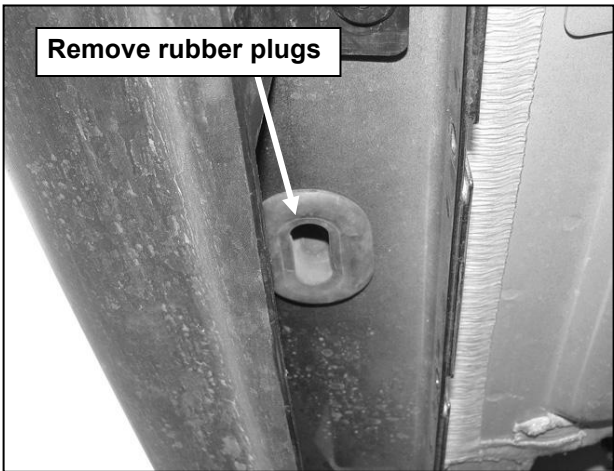
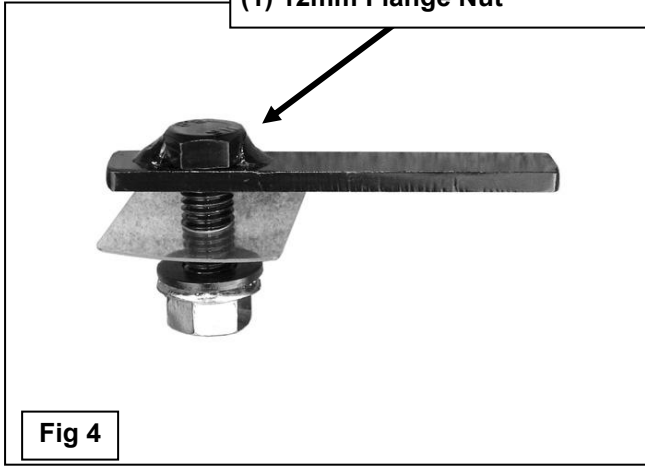
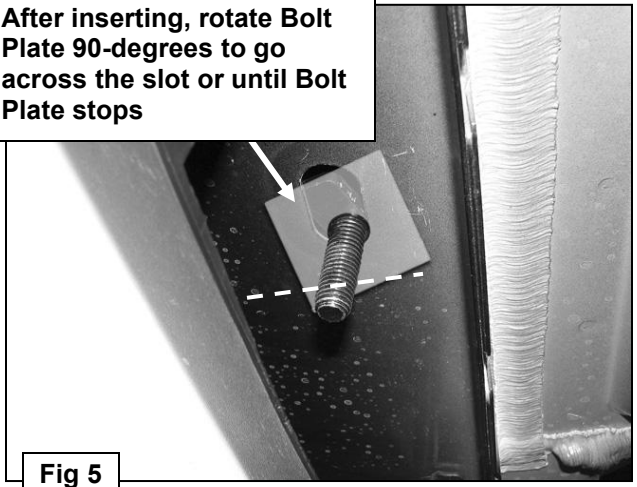

Fig 3
Fig 4
Fig 5
- Starting at the driver side, locate the (3) pairs of factory holes in the pinch weld, **(Figure 1 & 2)**. Move toward the front pair. Remove the rubber plug filling the oval hole in the bottom of the rocker panel in front of the two holes, **(Figure 3)**. Select (1) 12mm Bolt Plate and (1) 12mm Plastic Retainer. Partially thread the Retainer onto the Bolt Plate. Insert the Bolt Plate into the hole and rotate it 90-degrees to go across the slot, **(Figure 4)**. Thread the Retainer all the way down the Bolt Plate and tight against the body panel, **(Figure 5)**. **NOTE:** The Plastic Retainer is designed to prevent the Bolt Plate from falling into the body cavity and to aid in installing the Brackets.